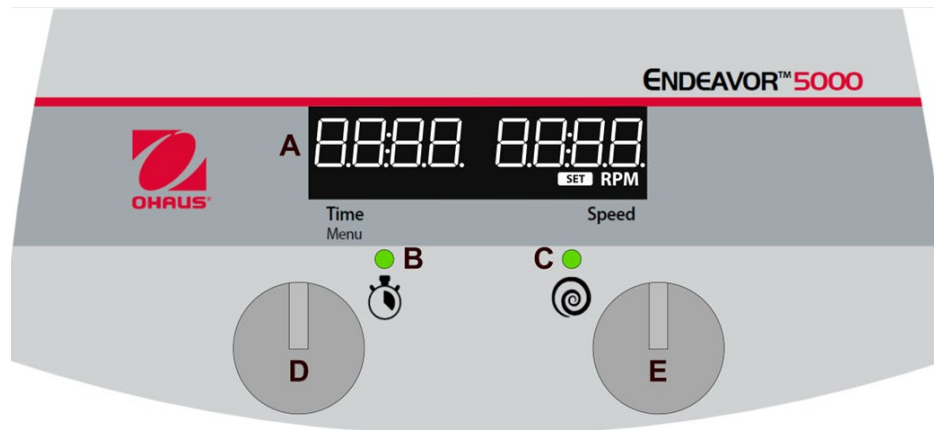

Figure 1: Endeavor 5000 Digital Control Panel
2. When the timer is set to any time between 00:01 and 99:59, the timer will count downwards from the set time once the shaking function is turned on and the **Timer Status Indicator Light (B)** will be illuminated.
- c. Once the timer reaches 00:00 in the countdown mode shaking functions will shut off, the unit will beep 1 time and “End” will appear on the display (A, Figure 1).
1. Rotate the Time Adjustment Knob (D, Figure 1).
- c. Quick press the **Time Adjustment Knob (D)** to select the minutes value
- e. Rotate the **Time Adjustment Knob (D)** to adjust the hours value
- f. Quick press the **Time Adjustment Knob (D)** to confirm hours value and the timer setting
1. Rotate the **Speed Adjustment Knob (E, Figure 1)** to the desired setting
1. Press and hold the **Speed Adjustment Knob (E)** until the unit beeps and the **Run Status Indicator (C, Figure 1)** illuminates.
- While in Idle Mode, press and hold the **Time Adjustment Knob (D)** until "MENU" is displayed
- Quick press either the **Time Adjustment Knob (D)** or **Speed Adjustment Knob (E)**.
- To select a recall run condition, press and hold the **Speed Adjustment Knob (E)** until the unit beeps and the **Run Status Indicator (C, Figure 1)** illuminates.